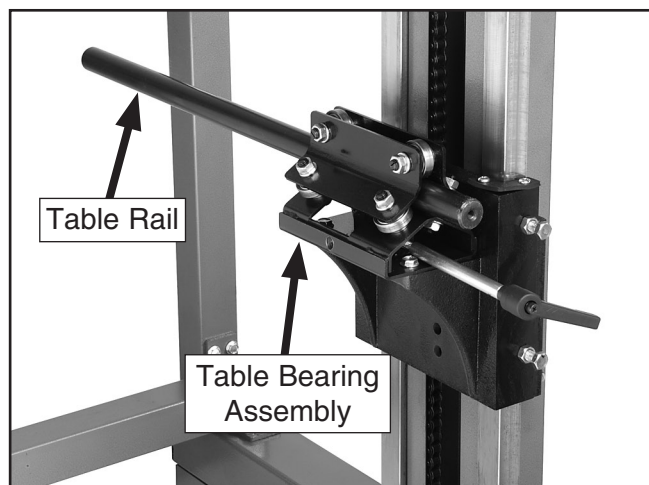

Figure 24. Table rails.
- Slide the two table rails into the table bearing assemblies on both sides of the frame (**Figure 24**).